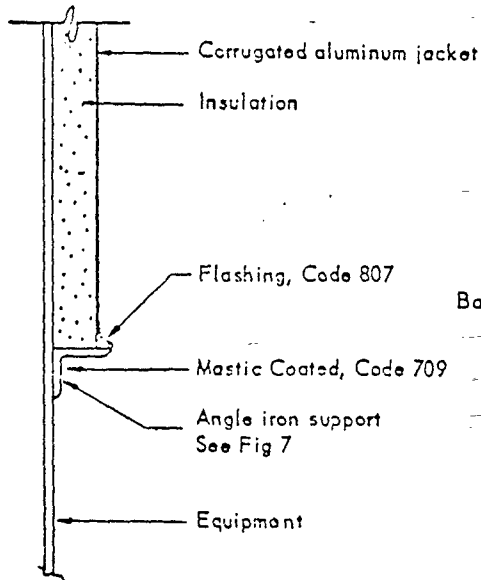

Figure 5
5.1 Vertical tanks and towers shall have an angle-support fastened by friction, see Fig 5, above the bottom knuckle weld, base or bottom head, directly under the insulation. The angle-iron support shall be in two sections for equipment less than 4-foot diameter and not less than 3 sections for equipment over 4-foot diameter. At any point where the steel angle-iron supports contact aluminum, apply Low-temperature Vapor-barrier Mastic, Code 709, to a dry thickness of $\frac{1}{8}$ inch to prevent metal-to-metal contact between the aluminum and steel surfaces. The angle leg shall extend $\frac{1}{2}$ inch beyond the surface of the insulation to provide a ledge to support the first course of corrugated aluminum.